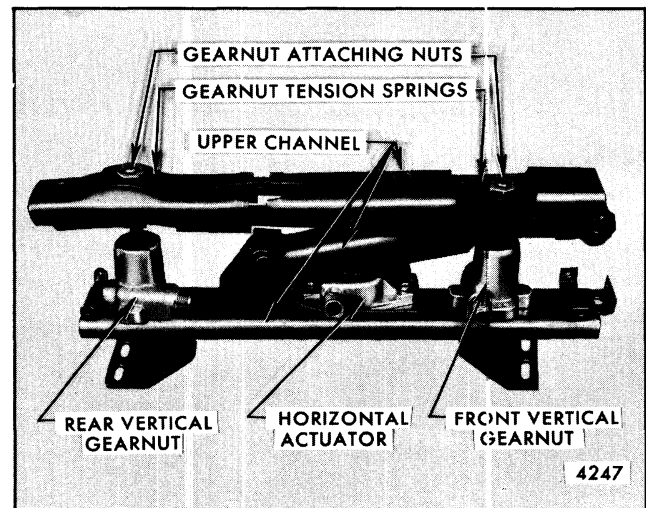
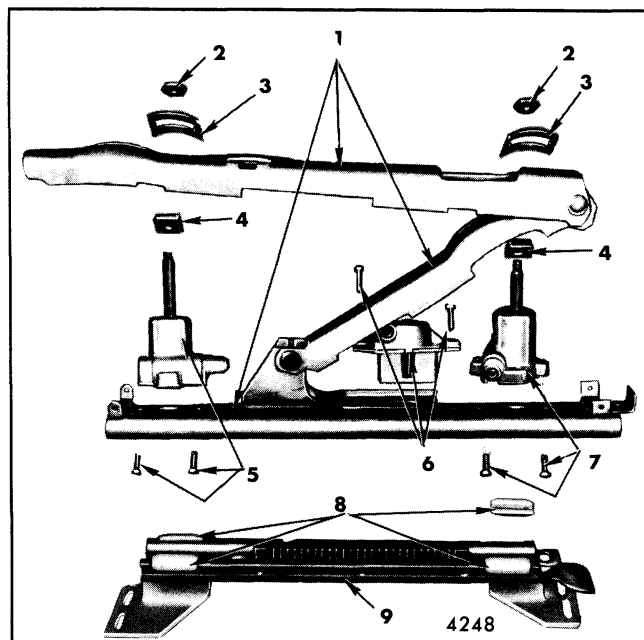

Fig. 9-21-Six-Way Seat Adjuster - "B, C and E" Styles
Fig. 9-22-Six-Way Seat Adjuster Components
2. At top of adjuster remove front and rear vertical gearnut attaching nuts and tension springs (Figs. 9-21 and 9-22).
3. Lift front of adjuster upper channel upward; then remove screws securing horizontal actuator to adjuster upper channel assembly and remove actuator from adjuster (Figs. 9-21 and 9-22).
3. At top of adjuster, remove both vertical gearnut attaching nuts and tension springs (Figs. 9-21 and 9-22).
4. Lay adjuster on its side and remove front vertical gearnut attaching screws; then, remove gearnut from adjuster (Fig. 9-22).
5. If front vertical gearnut is being replaced with a new part, transfer gearnut shoulder nut and tension spring to new gearnut assembly (Fig. 9-22).
2. At top of adjuster, remove both vertical gearnut attaching nuts and tension springs (Figs. 9-21 and 9-22). Lift front of adjuster upper channel upward; then, remove horizontal actuator attaching screws and remove horizontal actuator from adjuster (Fig. 9-22).